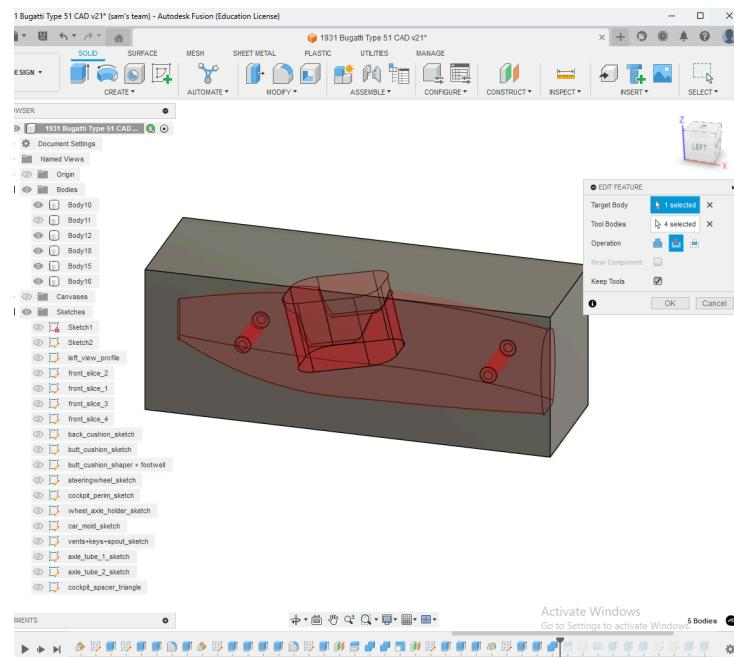

Fig. 30: Using combine feature to create inside of car mold
6. Use the combine feature selecting the car body, cockpit spacer pod, and wheel axle holders as tool bodies and the rectangular box as the target body. Select cut and ensure that “keep tool bodies” is enabled. This process is highlighted in **Fig. 30**.